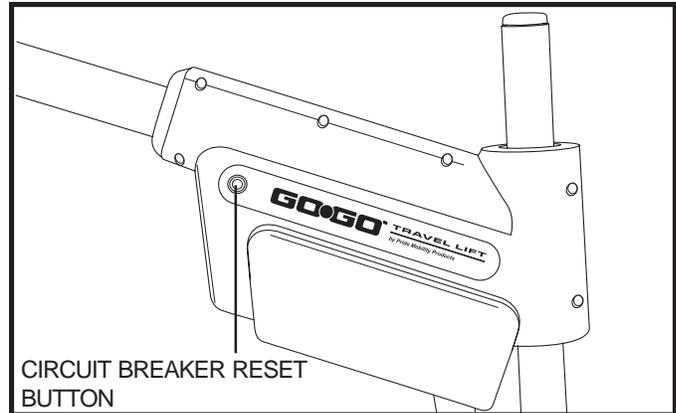

Figure 18. Circuit Breaker Reset Button
- Check the circuit breaker reset button. Reset if necessary. **See figure 18.**
If your Go-Go Travel Lift is heavily strained because of excessive loads, the main circuit breaker (**see figure 18**) may trip to protect the motor and electronics from damage. When the breaker trips, the entire electrical system shuts down.